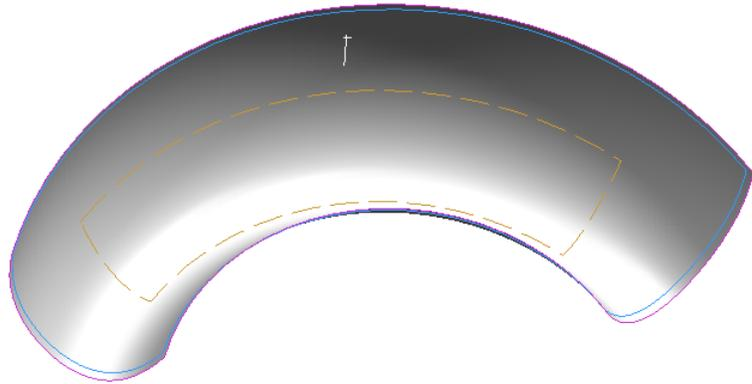

Figure 13–2
1. Open **ENG.prt** in the **MULTI_MAN_FEATURES_A** folder. The model displays as shown in Figure 13–2.